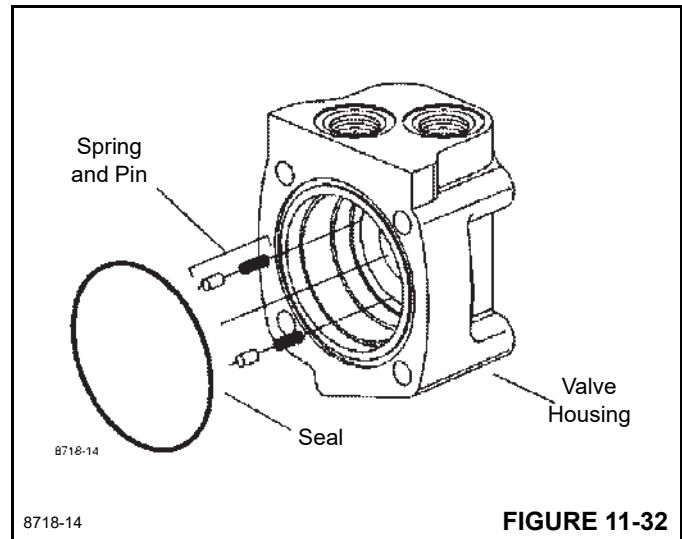

FIGURE 11-32
15. Install 2 springs and 2 pins in the holes located in the bore of the valve housing, as shown in Figure 11-32.